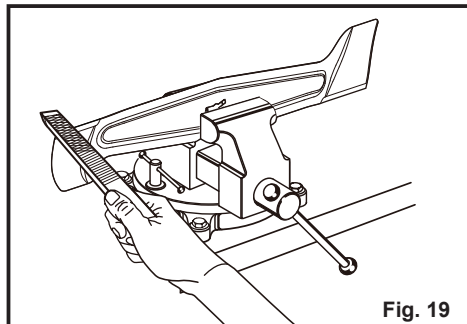

Fig. 19
- Using a fine-tooth file or sharpening stone, sharpen cutting edges on both ends of the blade, removing equal amounts of material from both ends (Fig. 19).